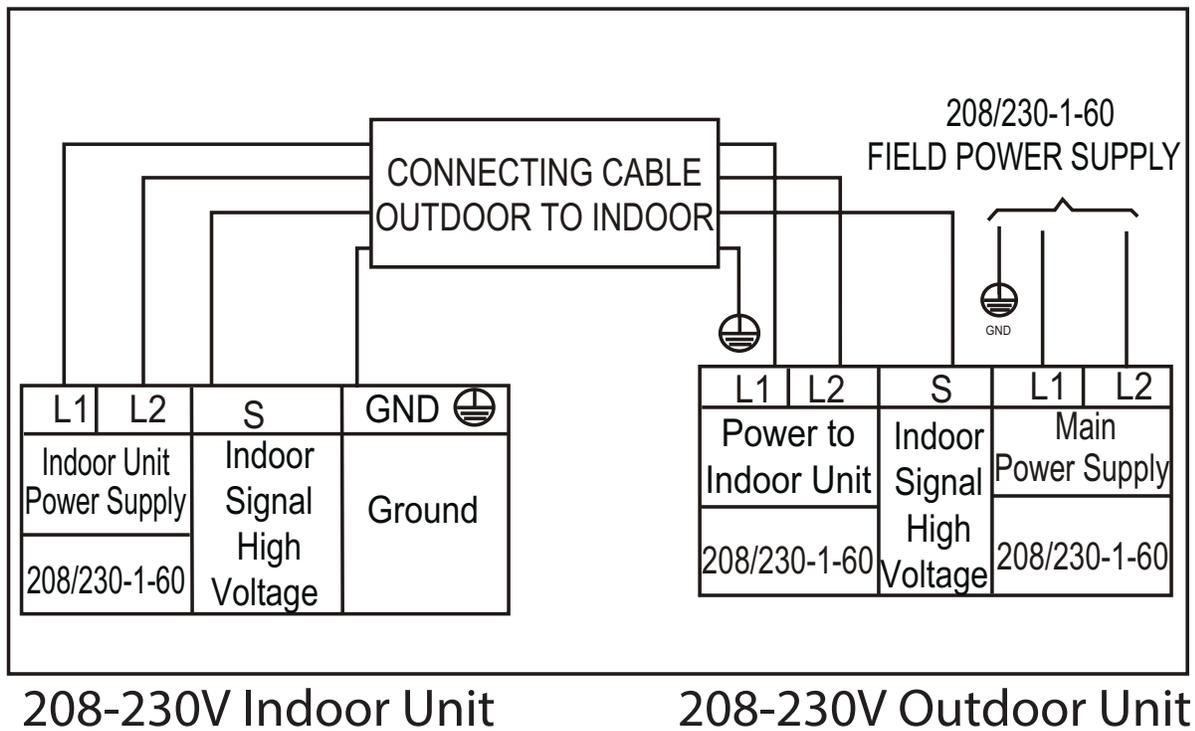

Fig. 4 — 208-230V
2. All connections between the indoor and outdoor units must be as shown in Figure 4. The connections are polarity sensitive and **improper wiring will result in a fault code.**